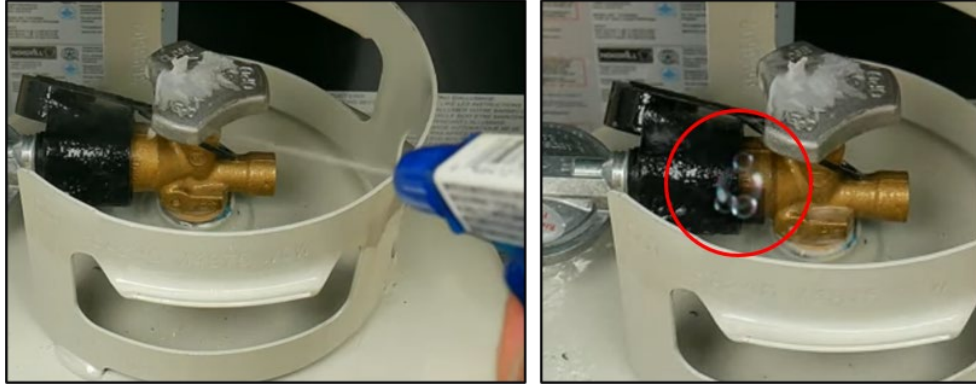

Figure 17 Leak Test Spray and Bubbles
3. Spray the soapy water solution on all joints of the gas delivery system (Figure 17)